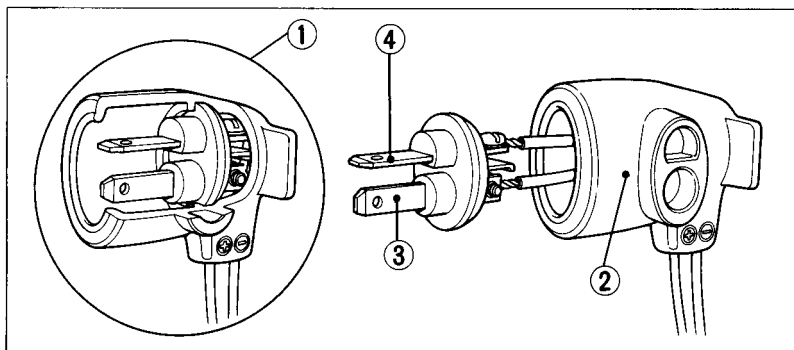

Fig. 2-30
Electrical accessories may be connected to the receptacle by using the special DC plug (Fig. 2-30) that comes attached to the receptacle. Be sure to use only accessories that are designed for 12 V DC power.
1. Remove the cover (2) from the plug.
2. Thread the positive and negative accessory leads through the plug cover as indicated in Fig. 2-30.
3. Attach the leads to the plug (1). Make sure to connect the positive lead (3) and the negative lead (4) to the proper terminals.